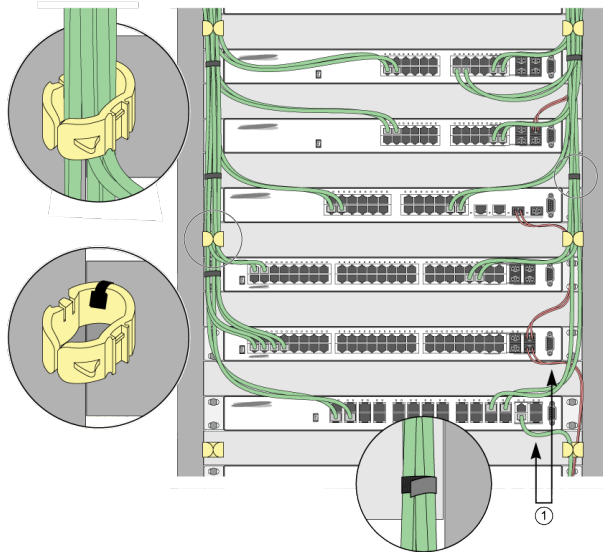

Figure 8: Properly Installed and Bundled Cable
- Provide enough slack, approximately 5 to 7.5 cm (2 to 3 in), to provide proper strain relief as shown in Figure 8 on page 34.
- When installing a patch panel using twisted pair wiring, untwist no more than 2.5 cm (1 in) of the cable to avoid radio frequency (RF) interference.